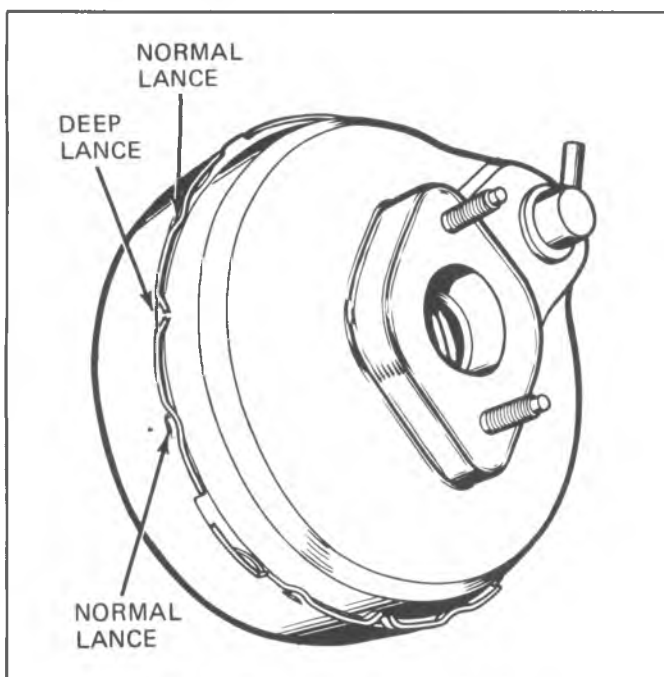

Fig. 5-3B--Lances in Rear Housing
are deeper than the other lances. The metal that forms the four (4) deep lances must be partially straightened so that the lances will clear the cutouts in the front housing. If the metal tabs that form the deep lances break during straightening, the housing must be replaced (fig. 5-3B).